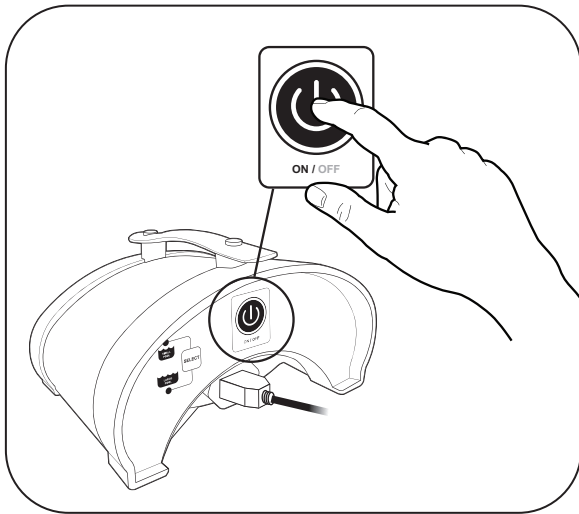

Figure 6. Begin Cleaning
1. Press On/Off button to begin or interrupt cleaner operation (Figure 6).